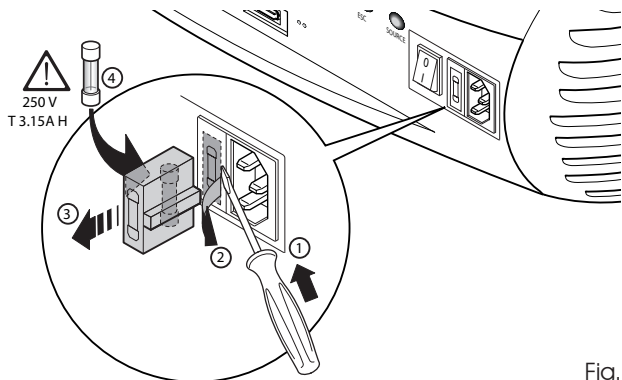

Fig.3
The fuse compartment is close to the mains power connector (Fig. 3). Use a slotted screwdriver to remove the fuse carrier (2) and replace the fuse (3). Insert a new spare fuse (4). Use only T 5A H fuses.